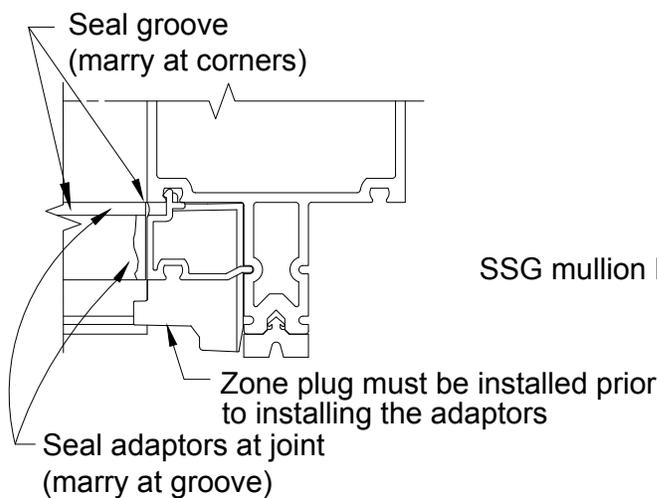

Figure 27
- A.3 Install horizontal adaptors maintaining an equal gap at each end. **Note:** For horizontal adaptors that are adjacent to SSG mullions, a small notch must be made to the tongue engagement hook in order to clear the SSG mullion bridge. **See FIGURE 26.** Once all adaptors have been installed in the opening, seal all joints between the vertical and horizontal adaptors. Run a bead of sealant in the groove formed between the adaptor and mullion. This seal must be continuous around opening and must marry with the seal at the horizontal to vertical adaptor joints. **See FIGURE 27.**